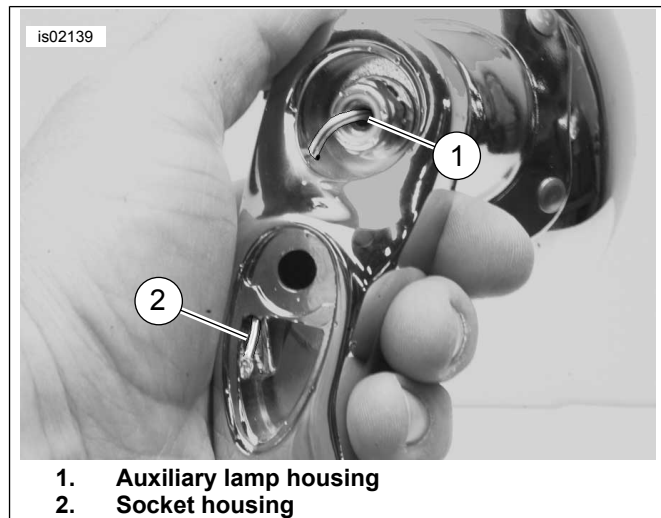

Figure 3. Lamp Wiring Routing Shown
2. See Figure 3. **Chrome auxiliary lamp housing:** Insert terminated end of gray/black wire through hole in mounting stud on lamp housing (1).
3. See Figure 3. **Black auxiliary lamp housing:** Insert terminated end of gray/black wire and bare ends of black wires through hole in mounting stud on lamp housing (1).
4. See Figure 3. **ALL housing:** Route wiring through both larger internal passages in lamp bracket until knot inside auxiliary lamp housing bottoms in housing (1).